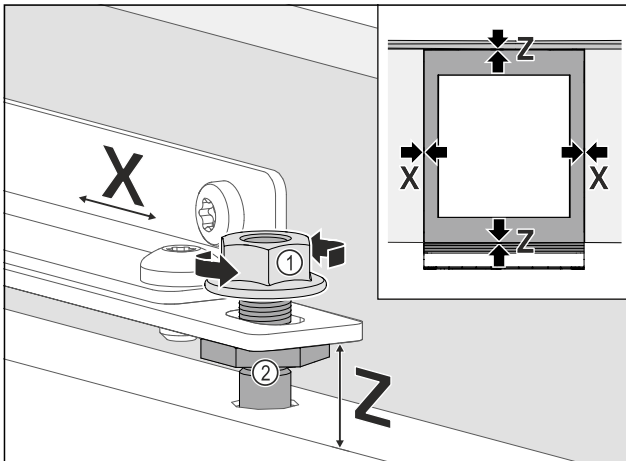

Fig. 75
- ▶ Align the unit door laterally: Loosen the lock nut Fig. 75 (1), move the unit door in X direction.
- ▶ Tighten the lock nuts Fig. 75 (1).
- ▶ Align the height Z and lateral inclination of the unit door: Set the adjustment bolt Fig. 75 (2).